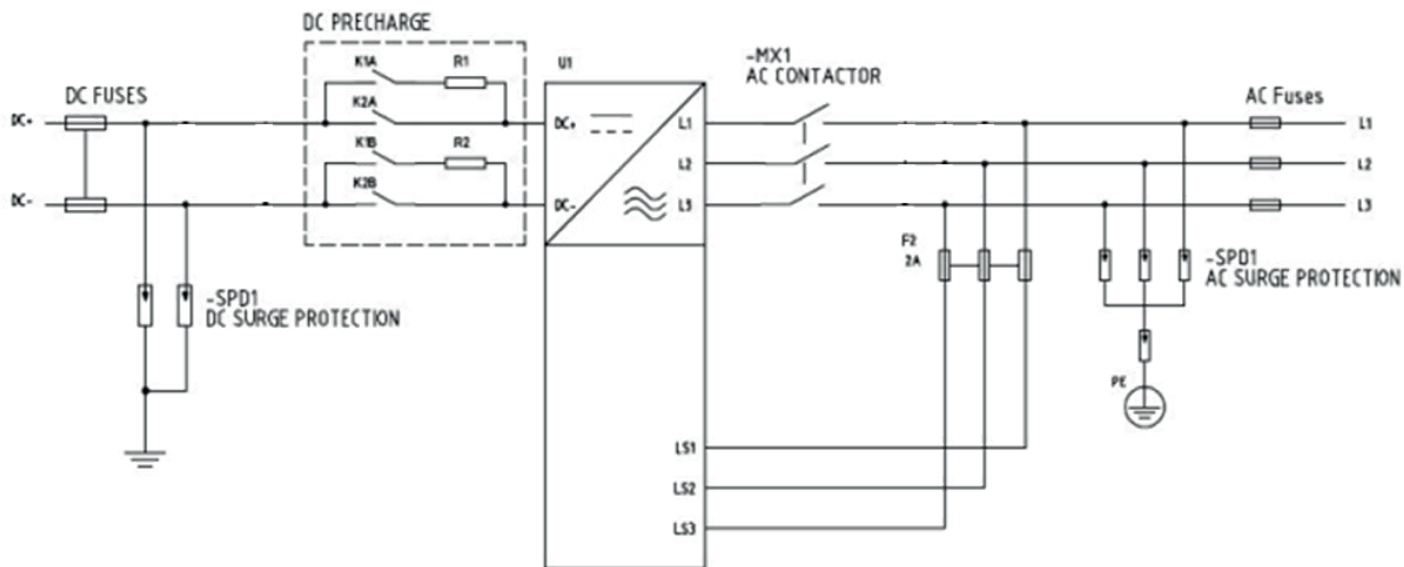

Figure 21. C-Cab XXL Power Diagram
1. If grid voltage is present and the C-Cab XXL will enter as 'grid following' mode, the C-Cab XXL will "spool up" the LCL filter in sync with the grid (matched phase angle and magnitude). Once in sync, the main AC contactor (MX1 see Figure 21) closes and the C-Cab XXL connects to the grid with little to no transient inrush. The C-Cab XXL is now online in a 'grid following' mode.
2. If grid voltage is NOT present and the C-Cab XXL will enter as 'grid forming' mode, once the pre-charge sequence is completed, the C-Cab XXL will first close its AC contactor (MX1 see Figure 21), and then ramp up its output voltage to its commanded setpoint. The C-Cab XXL is now online in a 'grid forming' mode.